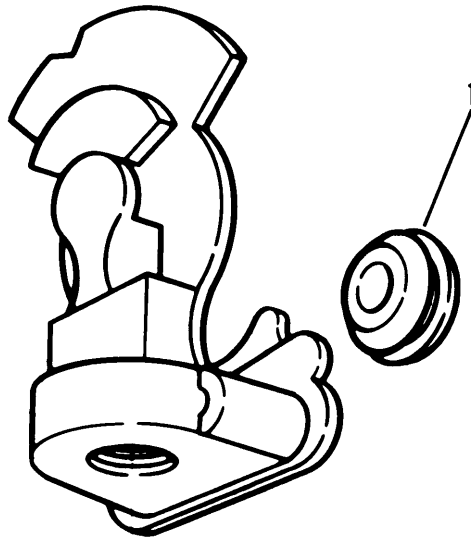

Figure 3-5. Gladhand
- a. Use a soft cloth to remove any buildup of grease and dirt (fig. 3-5).
- b. Use a soft cloth and detergent and water to thoroughly clean gladhand packing (1).